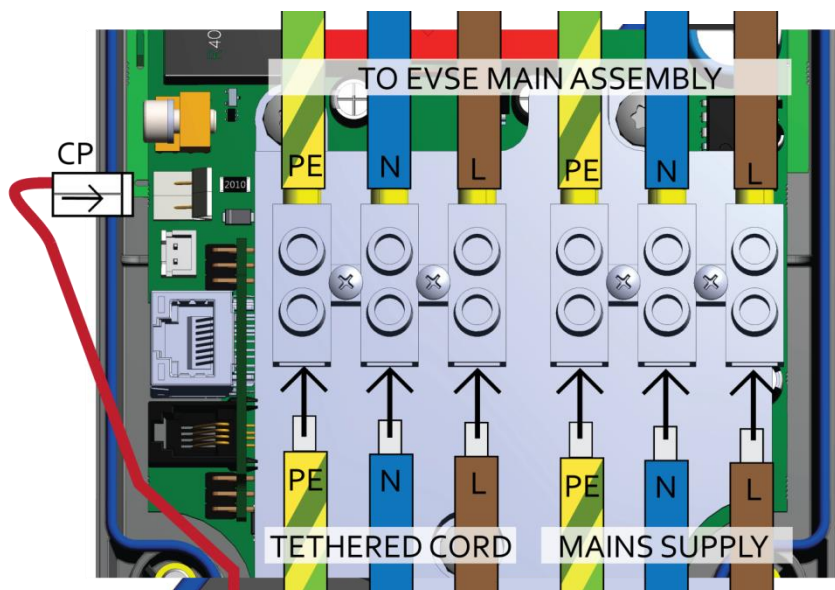

Fig 13 Tethered: terminal block and signal connections
On the tethered model, the terminal block is located on the back side of the main board. It is used for making the connections between the charger and the incoming supply, as well as between the charger and the supplied charging cord. This also requires that the control pilot (CP) signal wire from the charging cord is connected to the EVNET as illustrated in Fig 13. Ethernet and CT clamp connections are made to the main board of the device via RJ-45 and RJ-22 sockets, respectively. No other connections have to be made.